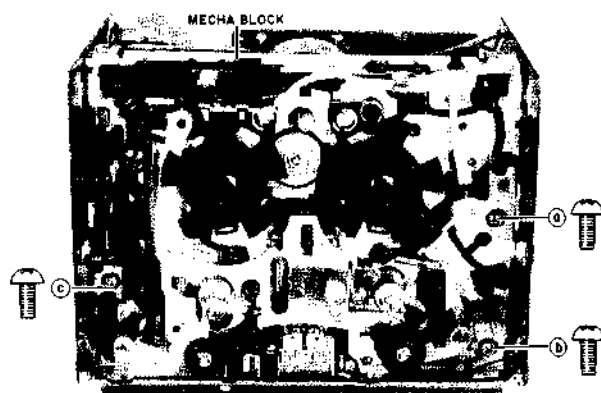

Fig. 4-6
- 3) Remove motor block securing screws ②, ⑤ and ⑥ from the mechanism block front side. Remove the motor block from the mechanism block. (See Fig. 4-6.)